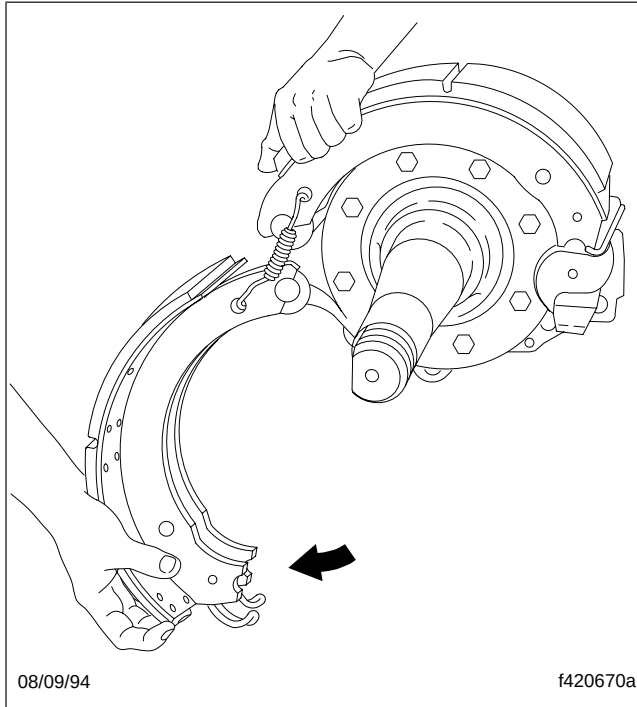

Fig. 5, Brake Shoe Removal
- 8.4 Rotate the lower shoe around the anchor pin on the spider to release tension on the two retaining springs. See Fig. 5. Remove the brake shoes.